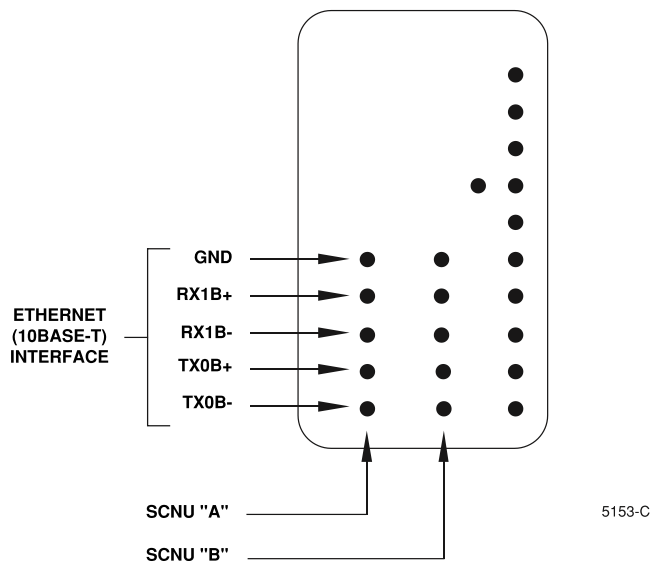

Figure 4-12. LAN Connections (Lower Wire-Wrap Pin Block)
3. Connect the LAN cable wire pairs to the appropriate pins on the lower wire-wrap pin block as shown in Figure 4-12.